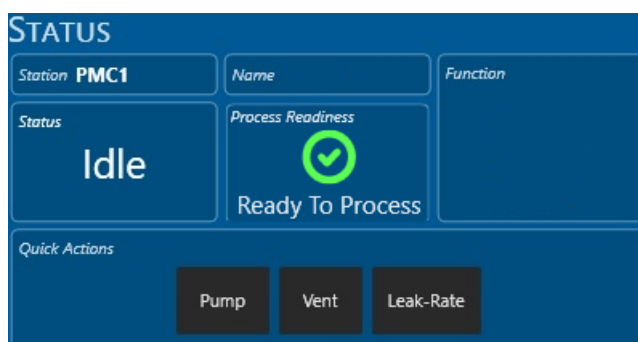
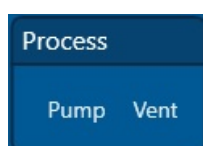

Figure 4-21 Status panel (process module page)
Figure 4-22 Quick Actions panel (Batch View page)
- 2 Click on **Vent** in the Status panel on the process module page (see Figure 4-21) or the Quick Actions panel on the Batch View page (see Figure 4-22).